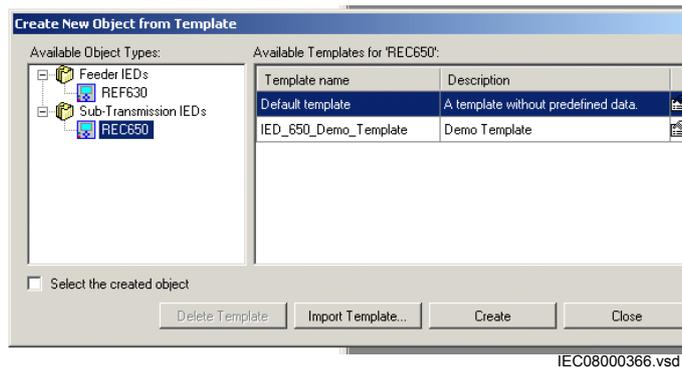

Figure 25: PCM600: Selecting IED from template library
2. Select *New* and *Create from Template ...* to open the *Create New Object from Template* window, see Figure 25.
5. Click *Delete Template* to delete the template, click *Import Template* to import a template from the selection window or click *Create* to insert the selected IED to the bay, see Figure 25.